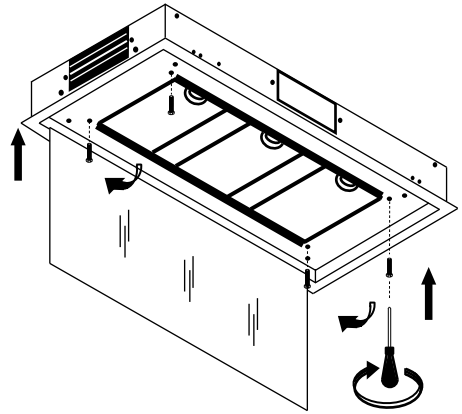

Fig 13
10. Re-insert the glass cover and grease filters into the body and tighten the screws (Fig 13).